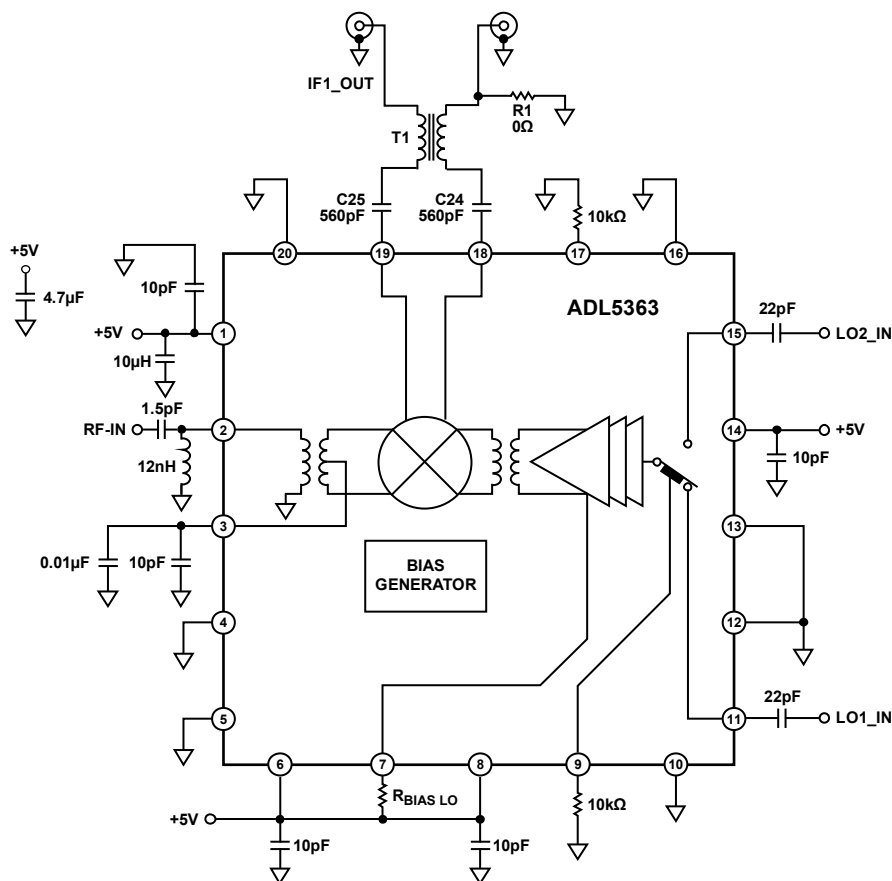

Figure 49. Typical Application Circuit
The ADL5363 mixer is designed to downconvert radio frequencies (RF) primarily between 2300 MHz and 2900 MHz to lower intermediate frequencies (IF) between 30 MHz and 450 MHz. Figure 49 depicts the basic connections of the mixer. To prevent nonzero dc voltages from damaging the RF balun or LO input circuit, ac-couple the RF and LO input ports. The RFIN matching network consists of a series 1.5 pF capacitor and a shunt 12 nH inductor to provide the optimized RF input return loss for the desired frequency band.